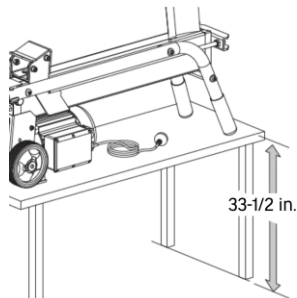

Fig. 1
1. Mount the log splitter to a workbench (not included) that has a minimum height of 33-1/2 in. (Fig. 1).